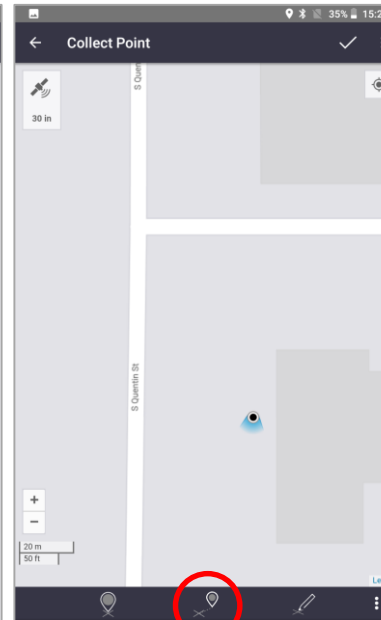

Figure 7
7. From the map view, tap on the **Log Offset** button along the bottom (Figure 7)